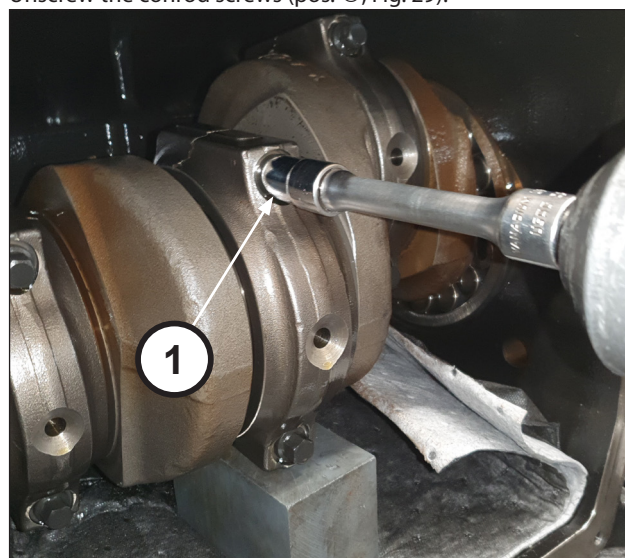

Fig. 29
Unscrew the conrod screws (pos. ①, Fig. 29).